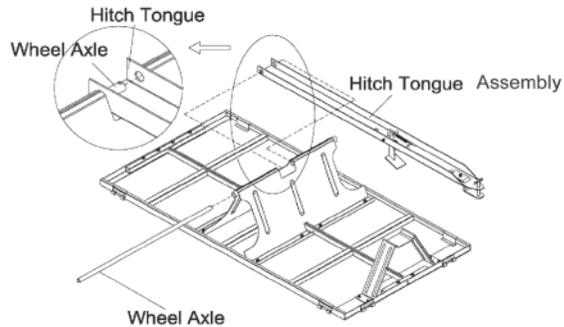

Fig. 4
**STEP 4: Attach Wheel Axle (See Fig. 4)**